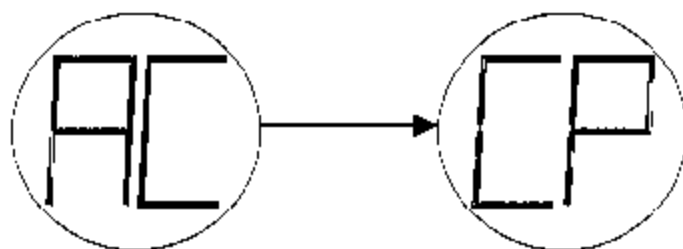

figure 22
- Apply a 50% LEL gas concentration to the sensor. The display will change from "AC" (Automatic Calibration) to "CP" (Calibration in Progress) indicating that the sensor is responding to the calibration gas (figure 22).